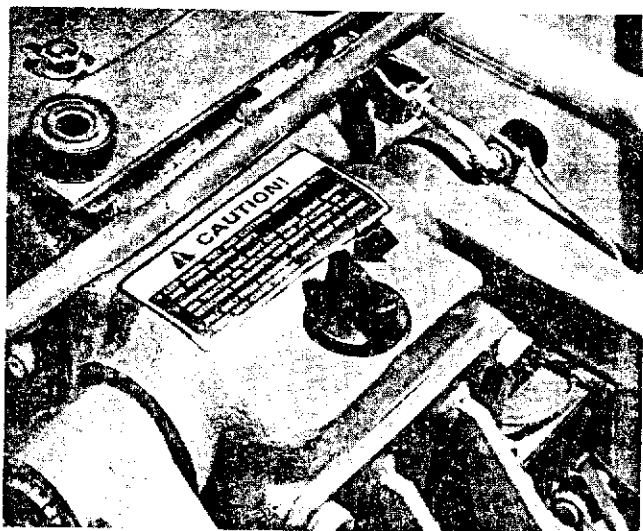

Figure 34 — Transmission, Rear Axle and Hydraulic System Oil Level Filler Plug
2. The oil is at the correct level when the oil level is between the mark and the lower end of the dipstick. If low, remove the filler plug, Figure 34, and add new oil of the type specified, page 22. Do not fill beyond the mark on the stick, as the transmission will be overfilled.
2. Remove the filler plug, Figure 34, and fill with new oil of the type specified, page 22.